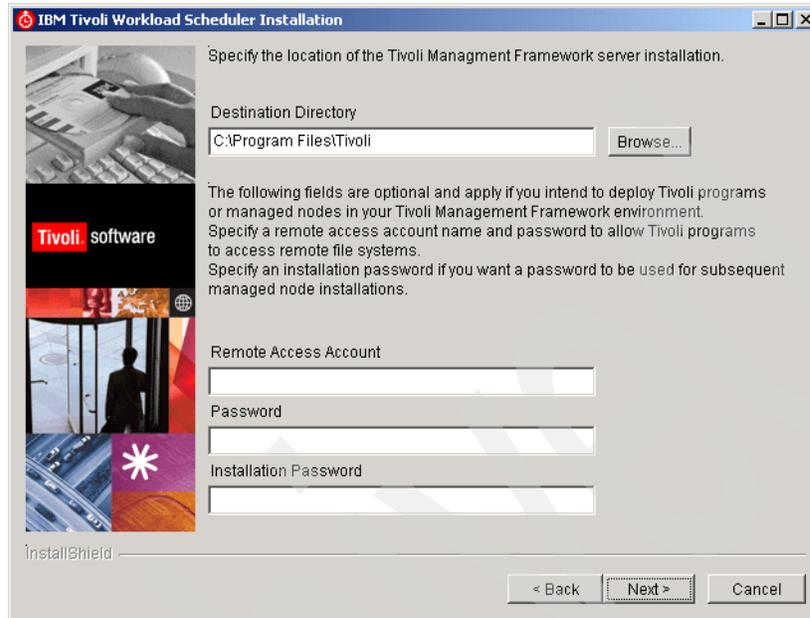

Figure 15-30 IBM Tivoli Workload Scheduler Tivoli Management Framework
11. Designate the location of the IBM Tivoli Workload Scheduler V 8.2 Tivoli Management Framework (Figure 15-30).